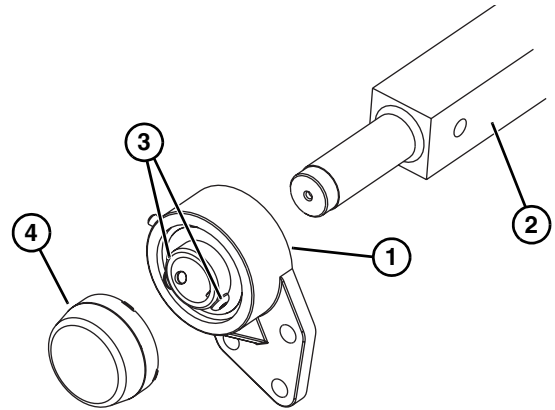

Figure 83
5. Slide the bearing flange assembly (**Figure 83, item 1**), onto the spindle shaft end (**Figure 83, item 2**).
6. Use a hex wrench to tighten the bearing shaft assembly fasteners (**Figure 83, item 3**).
7. Install the bearing cover (**Figure 83, item 4**).